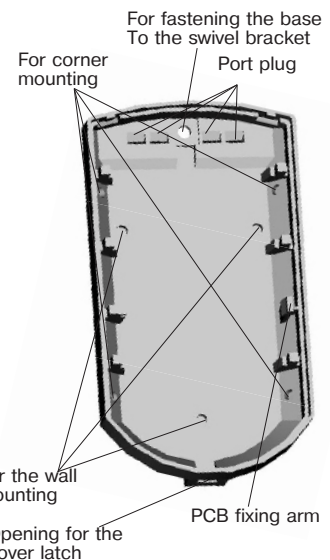

Figure 2 – The Detector Base and the Swivel Bracket
- Unfasten the latch through the opening, which is situated downside the detector case by means of screwdriver and put off the detector cover (Figure 2).
- Drill the holes in the base of the detector for wiring and fastening the detector (Figure 2).